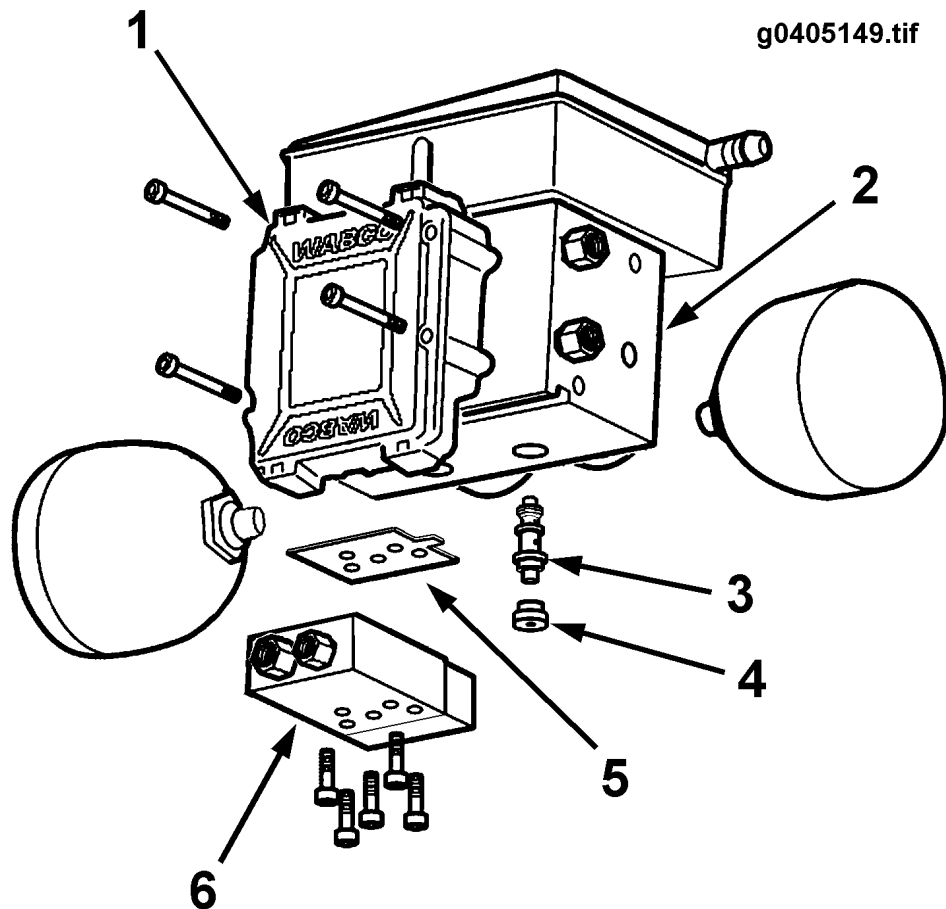

Figure 49 HCU Exploded View
9. Using a 4 mm Allen wrench, remove the 5 screws that attach the relay valve assembly to the HCU. Refer to FIGURE 49.
10. Using a 6 mm Allen wrench, remove the secondary pump retaining plug from the HCU (FIGURE 49).
12. Immediately install the replacement pump. Carefully seat the pump into the bore, using light hand pressure only. Refer to FIGURE 49 (See Figure 49, page 101).
4. Using a 6 mm Allen wrench, remove the primary pump retaining plug from the HCU (FIGURE 49).